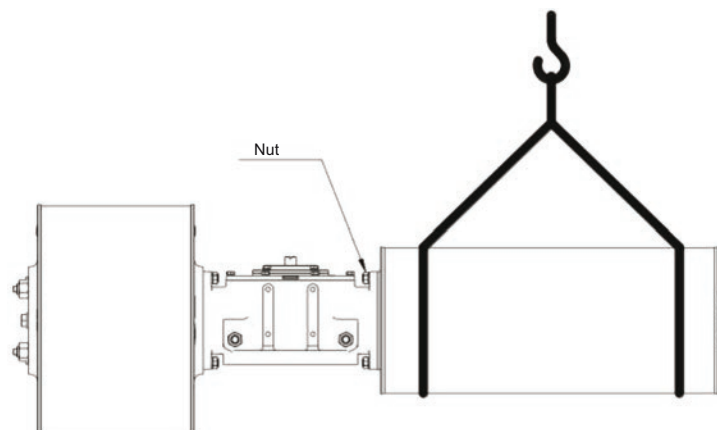

Figure 21
- Take the necessary lifting measures for the spring module, refer to Figure 21. Unscrew the nut between the spring module and the drive module and remove the spring module.
1. Lift the spring module (including the o-ring between the modules) to the mounting surface the drive module (as shown in Figure 21), and tighten the nut;